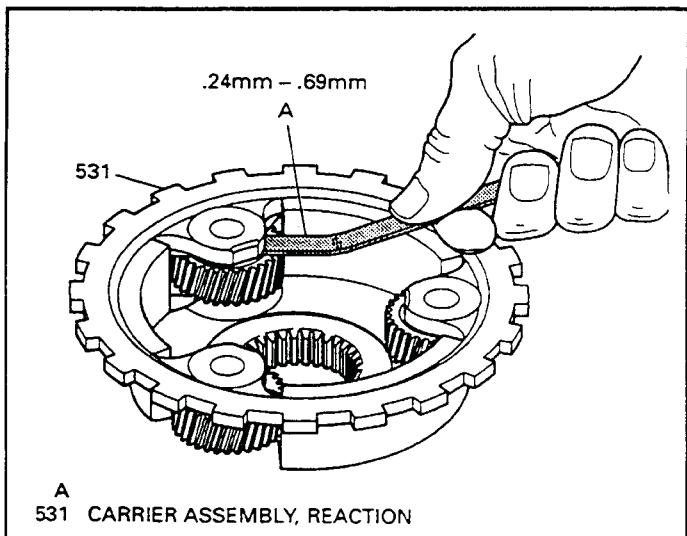

Figure 137
36. Measure the reaction carrier pinion gear end play with a feeler gage for proper specification, as shown in Figure 137.
37. End play should be $.009"$ -.027" or .24mm to .69mm, as shown in Figure 137.